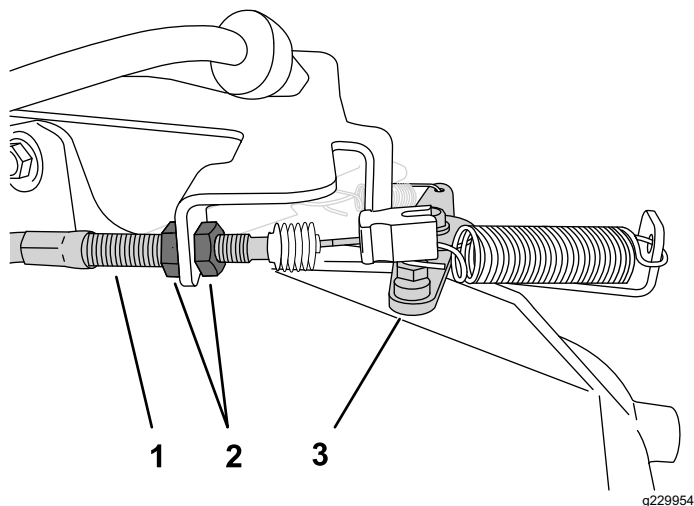

Figure 41
2. At the throttle cable housing, loosen the forward jam nut and tighten the rear jam nut to increase the low idle (Figure 41).